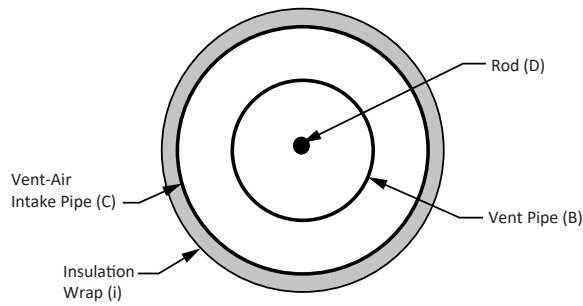
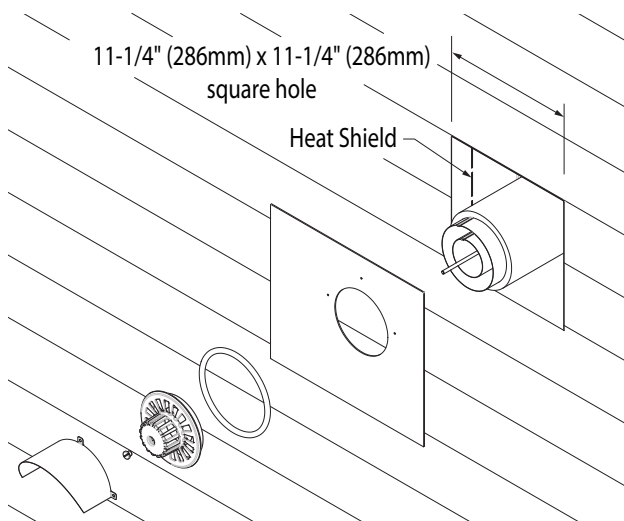

Figure 8
Figure 9
- (B) vent pipe
- (C) vent-air intake pipe
- (D) rod
- The hole at the outside of the wall must be a square of 11-1/4" (286 mm) X 11-1/4" (286 mm) (see figure 9).
- Slide the heat shield (K) into the 11-1/4" (286 mm) X 11-1/4" (286 mm) square hole. Secure the heat shield (K) to the wall bracket using the appropriate hardware.
- From the outside of the wall, screw the rod (D) slightly onto support located inside the appliance flue outlet.
- Wrap the vent-air intake pipe (C) with the provided insulation (i) (foil side out) and place the provided strip of tape (H) down the seam to secure it.
- Slide the smaller vent pipe (B) (from outside your house) through the hole in the wall and attach to the mounted heater inside your house. Be sure the vent pipe is snug and engaged to the heater. Then slide the larger Vent-Air Intake Pipe, with the insulation wrapped and taped to the outside of the pipe, through the same hole and over the smaller Vent Pipe (B) and attach to the heater.
NOTE: It is critical that the insulation wrap (i) be wrapped and secured with the tape on the outside of the larger Vent-Air Intake Pipe (C). The insulation is NOT to be wrapped in between Vent Pipe (B) and Vent-Air Intake Pipe (C) (see figure 8).
7. The outdoor mounting plate (F) and the silicon-rubber ring (G) should be installed between the vent cap (A) and the exterior wall. Note: For additional security the outdoor mounting plate (F) can be attached to the outside of the wall using the appropriate hardware for mounting to the surface of the building. The outdoor mounting plate (F) must be positioned flush to the wall and sealed with a non-hardening mastic (silicone caulk). When positioning the outdoor mounting plate (F) for installation ensure the offset hole is located to the right of the mounting plate.
8. Before attaching the vent cap (A) to the exterior wall, run a bead of non-hardening mastic (silicone caulk) around its outside edge, so as to make a seal between it and the outdoor mounting plate (F).
9. Slide the vent cap (A) into position and secure into place using the provided nut (E). Tighten nut (E) down until the vent cap (A) leans against the outdoor mounting plate (F) (see figure 9).
10. Secure the rain shield (J) to the outdoor mounting plate (F)